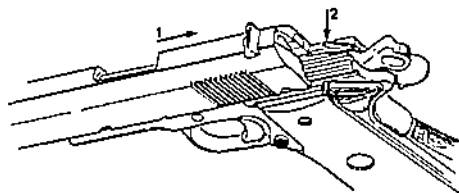

FIGURE 14—INSTALLING SLIDE
4. (A, B & C) Cock the hammer. Look at the top of the receiver and make sure the plunger lever is down (forward), tip the receiver forward to keep it down as you run the slide onto the receiver; (See Figure 14).